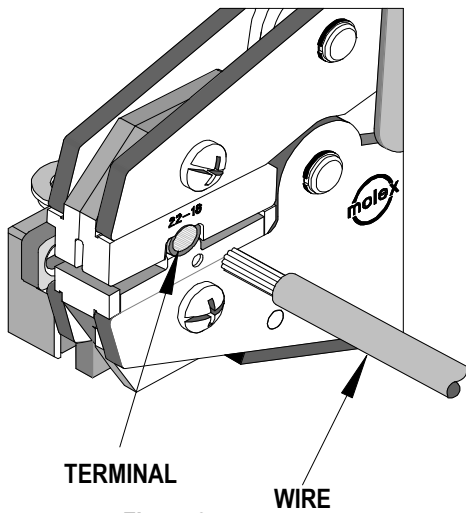

Figure 2
2. Partially close the tool to hold the terminal in place. See Figure 2.
3. Insert the properly stripped wire into the terminal barrel. See Figure 2 and 3. The wires end should butt against the wire stop position of the locator. Cycle the tool.